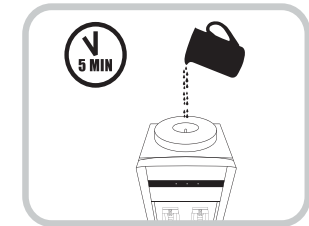

Fig.1
2. Fill water reservoir with tap water full to capacity. Allow the water to settle into the hot and cold water tanks for 5 minutes. (Fig. 1)